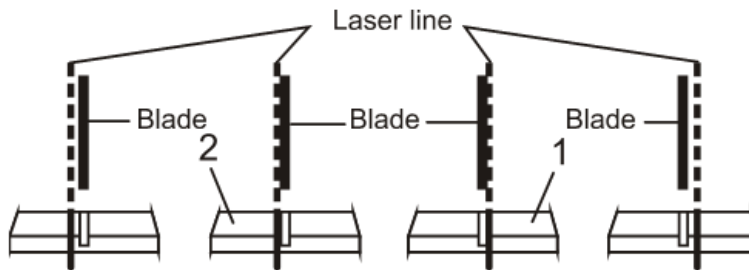

Fig. 25
- a) Follow the cutting head movement pattern (3).
- b) Only cut part way through the workpiece Fig. 25. You will need the saw cut for adjusting the laser.
Now that you have made a test cut, the laser will have to be aligned so it is immediately beside the cutting line (Fig. 25). Adjustment will vary depending upon whether the "good piece" is to the left or right hand side of the blade. For purposes of illustration, the "good piece" is to the right hand side of the workpiece (1) as is usually the case for right handed operators. Left handed operators will normally leave the "good piece" to the left hand side of the workpiece (2).